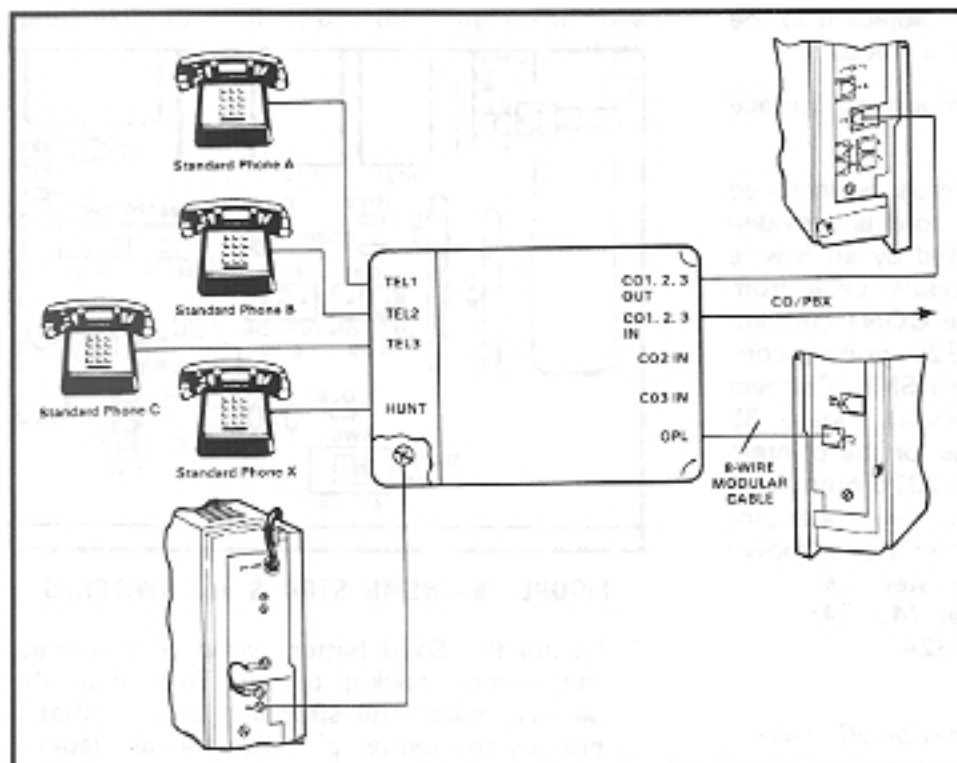

FIGURE 34—HOLB WIRING
09.53 Cabling: When using the HOLB unit, the CO lines are connected to the CO1, CO2, CO3 connectors (**J2**, **J3**, and **J4**) on the HOLB unit (Figure 34). Then, a 6-wire cable from the CO1, 2, 3 OUT (**J1**) connector on the HOLB is connected to the CO1-3 modular connector on the right side panel of the HKSU. Connect the provided 8-wire modular cable from the HOLB 1-3 connector (on the HKSU left side panel) to the HOLB unit. Connect the provided green ground wire between TB1 (FG) on the HOLB and the HKSU. (A similar procedure is followed if a second HOLB unit is to be connected to the HOLB 4-6 connector.)